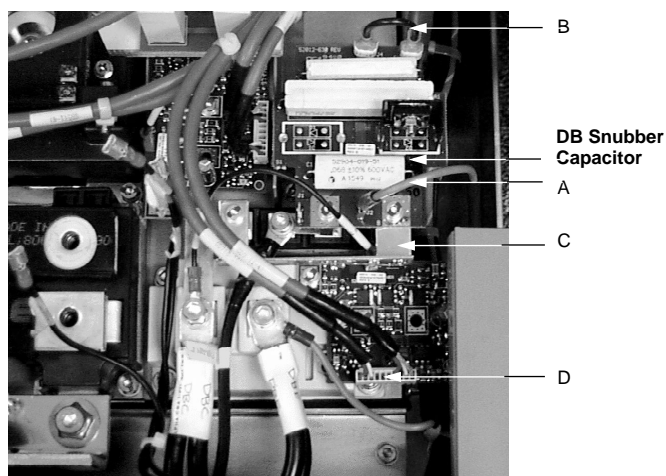

Figure 4.2.17: Removing the DB Snubber Board
- Snubber boards. Refer to Figure 4.2.9 on page 4.2.17 and Figure 4.2.17 on page 4.2.33 for location.
7. Using needle nose pliers, carefully disconnect the J2 connector (**A** in Figure 4.2.17) on the dynamic braking snubber board.
9. If you are replacing the DB snubber board, remove the jumper between J3 and J4 (**B** in Figure 4.2.17).
1. If you are installing a new DB snubber board, install the jumper between J3 and J4 (**B** in Figure 4.2.17 on page 4.2.33).
4. Carefully replace the J2 connector (**A** in Figure 4.2.17) on the DB snubber board.
2. Using a hex key wrench, loosen and remove the mounting screw for the DB snubber board bus bar bracket (**C** in Figure 4.2.17 on page 4.2.33). Remove the bracket.
3. Unplug the control cable (**D** in Figure 4.2.17) from the gate driver board (pull on the plug, not the wires).